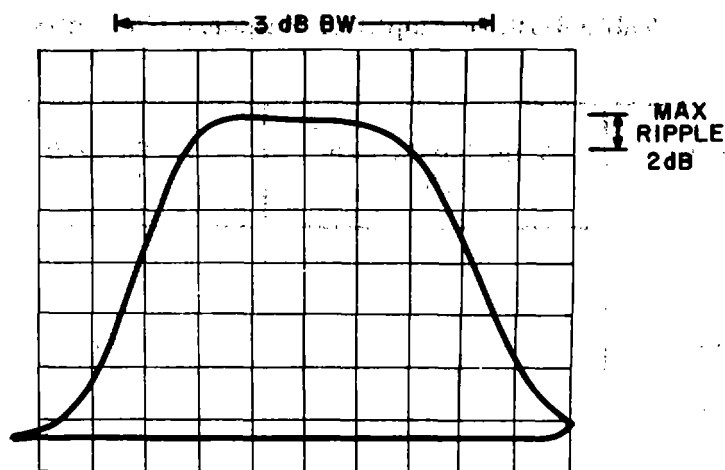

Figure 4-21B. Type 7240191-1 IF Amplifier, Typical Response
8. For the Type 724019-1 IF Amplifier, adjust C5, C8, C10, C13, C15, C18, and C20 to obtain the best overall response, as illustrated in **Figure 4-21B**. Adjust R9 to set the response amplitude equal to ± 1 dB of the reference set in step 5. Connect the DVM between connector pin 12 and ground and adjust R2 for a -6.00 Vdc reading on the DVM.